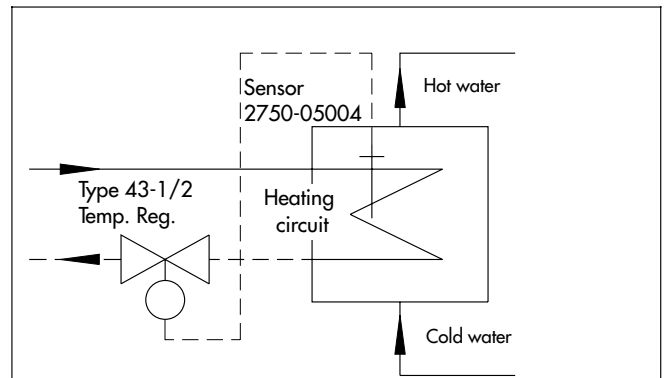

Fig. 4 · Installation position of the vapour pressure thermostat (principle)
- To utilize the fast response characteristics of the vapour pressure sensor, the sensor must always be installed in the best position. In instantaneous water heaters, it should be installed directly in front of the flow outlet from the heat exchanger, yet in front of the hot water inlet (see Fig. 4).